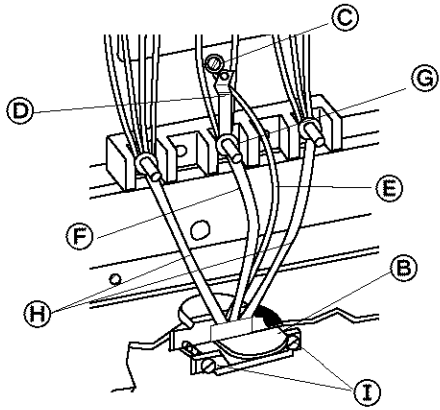

Figure 2
8. Connect the green ground wire ⑤ from power supply cord to the range using the ground-link screw. **The ground wire must be attached first and must not contact any other terminal.** See Figure 2.
9. Connect the neutral wire (center wire) ⑥ to the center, silver-colored terminal screw ⑦ on the terminal block using the brass terminal nuts that are attached to the inside of the terminal block cover. See Figure 2.
10. Connect the other two wires ⑧ to the outer terminals on the terminal block. See Figure 2.
12. Tighten the strain relief screws ①.